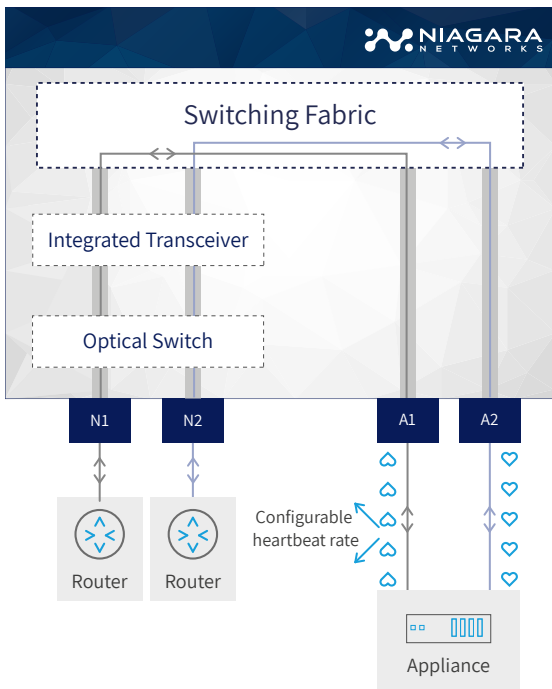
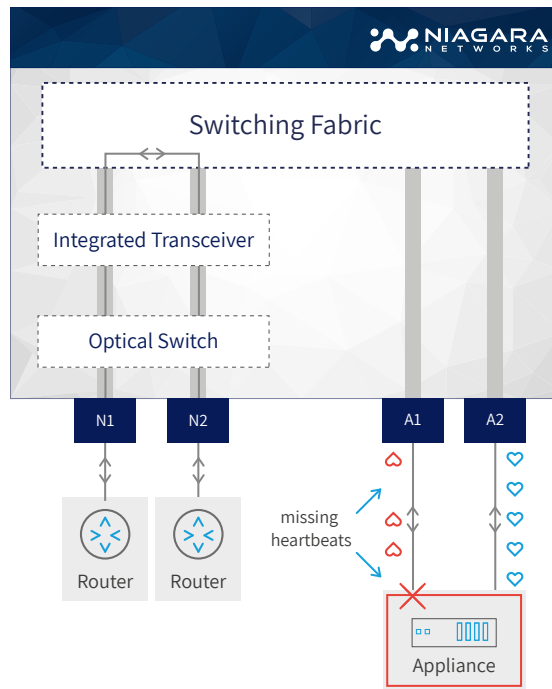

Figure 5: Normal inline Operation Mode
Figure 6: Appliance Failure Mode
**Heartbeat protection** - protecting network traffic flow in case of appliance failures. The NPB transmits a user-configurable heartbeat on the appliance ports as depicted in figure 5. In the event of an appliance malfunction (such as a software crash, system failure or loss of power depicted in figure 6), the failure is detected, and the NPB bypasses the traffic intended for the inline appliance to the network ports, allowing it to continue to flow through the network link. This feature also enables the network appliances to be removed and replaced without network downtime. Once the system is back up, or the power is restored to the appliance, it is detected by the NPB's heartbeat mechanism, and network traffic is seamlessly diverted back to the inline device, allowing it to resume its critical functions.